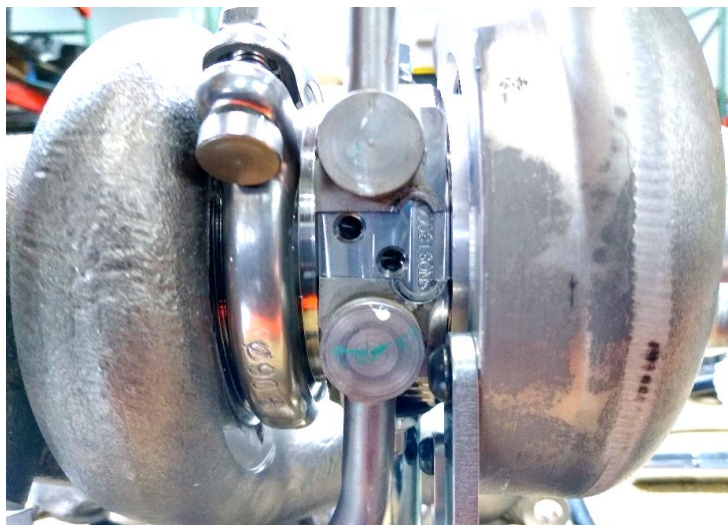

Figure 5
**Step 10:** Using the supplied 9" coolant line with fire sleeve, connect line to the existing coolant line on the turbo. Connect line to the turbo as shown in Figure 5. Secure all connections with 18mm pinch clamps.